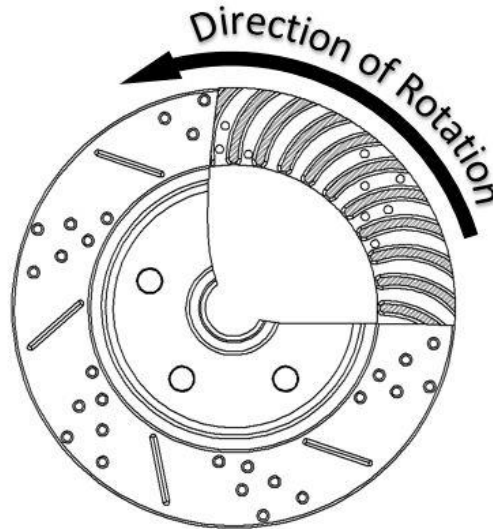

Figure 5 – Proper Rotor Direction
10. Slide the rotor onto the spindle. The inner wheel bearing and grease seal should be installed at this point. Use Figure 5 below to determine the proper Driver or Passenger side rotor placement.